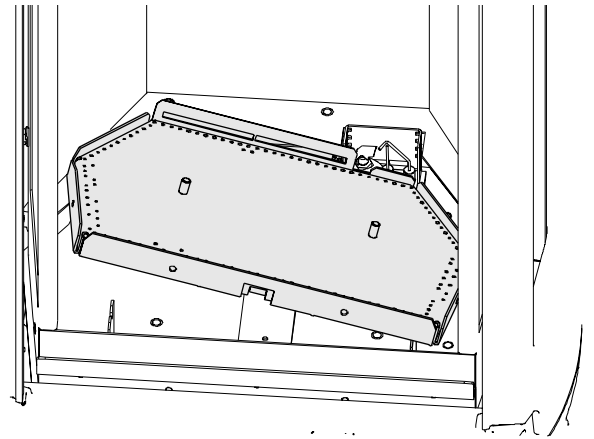

Figure 7.2. Remove Burner.
4. Remove the Burner: Lift the front of the burner base to disengage it from the support brackets and pull it forward off of the burner injector. Then tilt it side-to-side and pull it out through the door opening. Fig. 7.2.